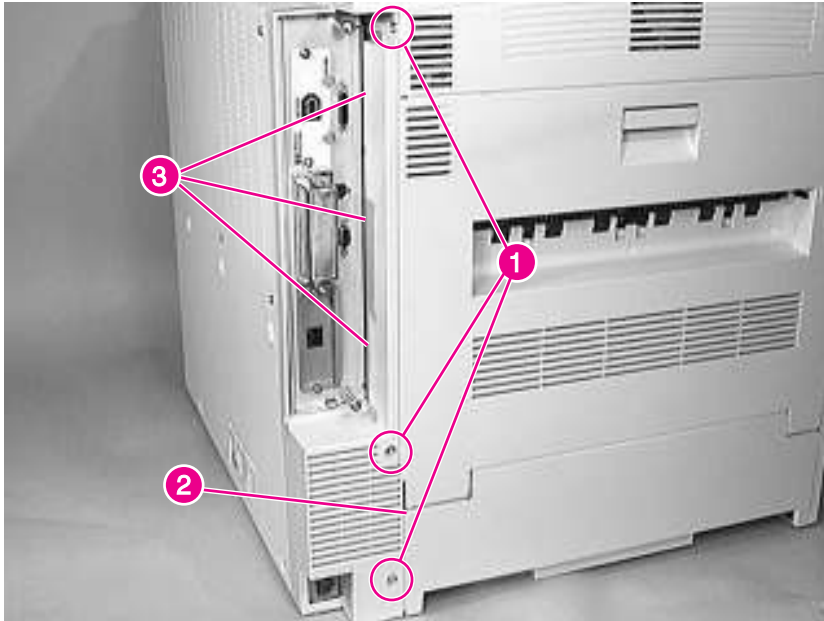

Figure 6-5 **AC Access Cover**
- 2 Remove 3 screws (figure 6-5, callout 1).
- 1 Insert the panel edge (figure 6-5, callout 2) inside the back cover (if installed).
- 2 Be sure to insert the three alignment tabs (figure 6-5, callout 3) into their slots before replacing the screws.
- AC Access Cover (see figure 6-5 on page 166)